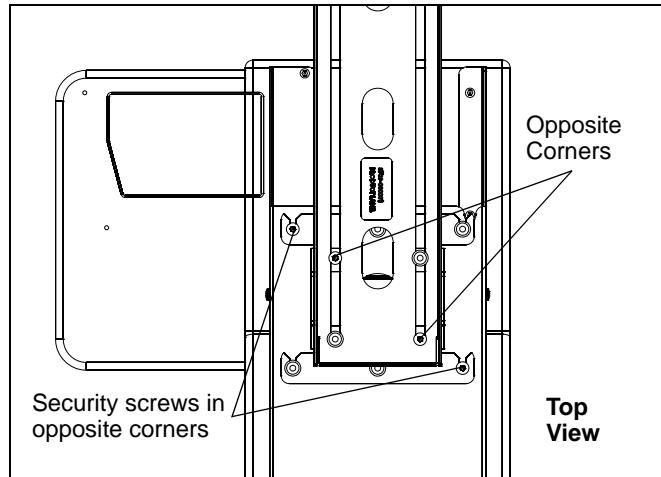

Figure 5
1. Replace four screws from the interface bracket (preferably from opposite corners) with four security screws (F-and additional screws from security kit if applicable). (See Figure 5)